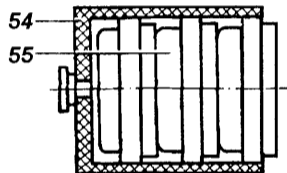

Fig. 18.
each, place them into the battery insert 54, as shown in figure 18. Improved TTL prisms have a built-in battery insert intended for modern (A)G-13, LR44, L1154, A76 and 357(A) button cells.